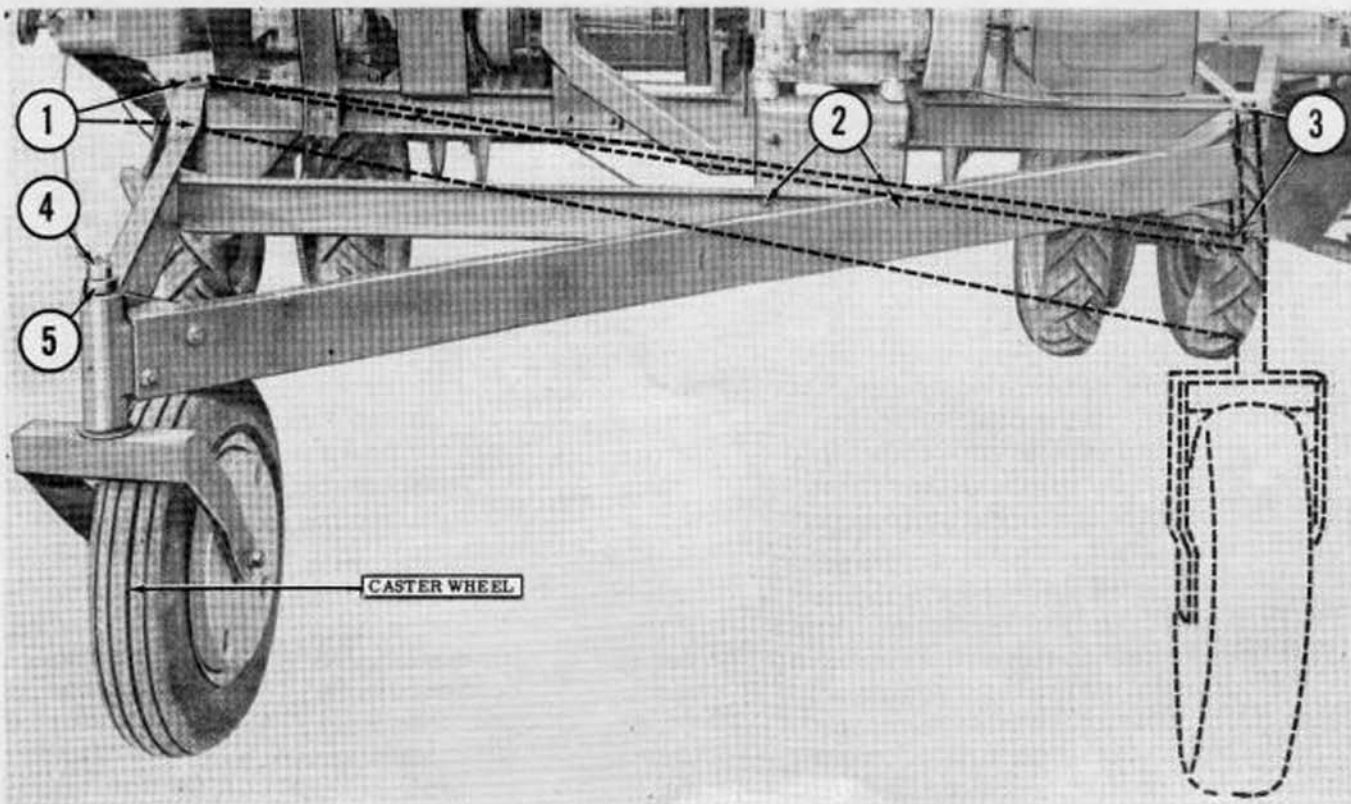

Figure 4
Field Operation: During field operation, the caster wheel assembly may be offset either to the right or left to avoid running over the windrow. See Figure 4. For example, if the operator is making right hand turns at the end of the field, the caster wheel should be set to travel on the left side of the windrow.
2. Remove the two bolts, lock washers and nuts located at (1), (2) and (3), Figure 4.
3. Remove the locking collar (5), then remove the caster wheel and pivot pin (4) from the pivot casting.
5. Reattach the radius arms at points (1), (2) and (3) of Figure 4.
6. Reinstall the caster wheel and pivot pin (4) in the pivot casting and install the locking collar (5). The caster wheel assembly will then be positioned as indicated by the dotted lines in Figure 4.